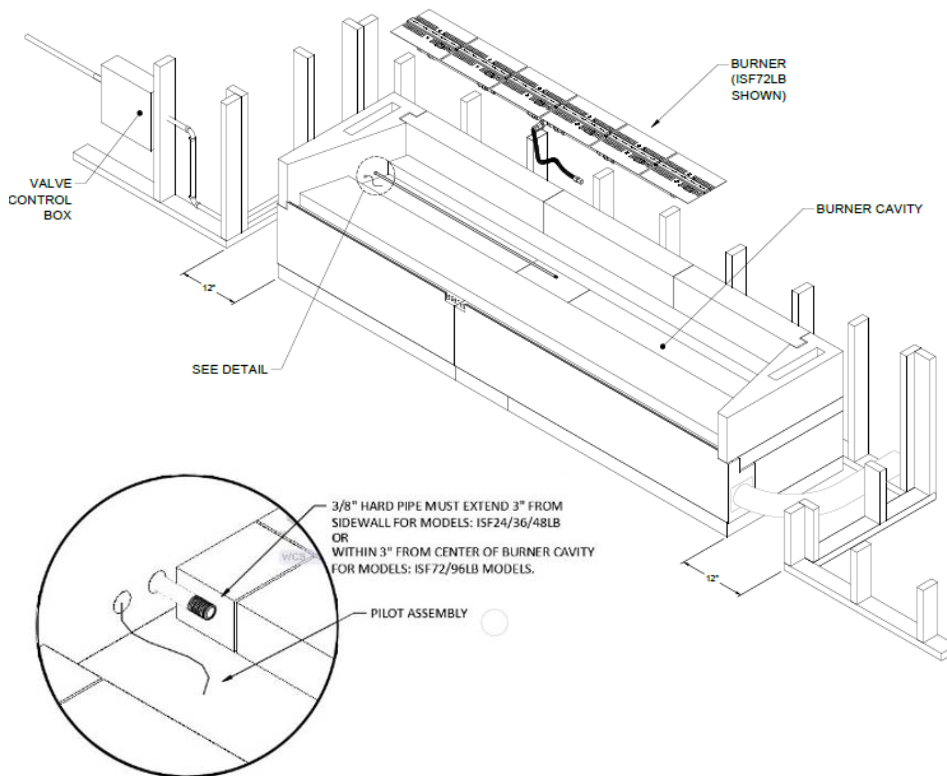

FIGURE 63
- 4) The 48” and 72” Maximus Linear fireplaces (82L48 & 82L72) will require the ISF36/60LB (respectively): Gas supply piping for these models shall terminate not less than 3” from sidewall. (Figure 63)
- 5) The 96” and 120” Maximus Linear fireplaces (82L96 & 82L120) will require the ISF72/96LB (respectively): Gas supply stub piping for these models shall terminate within 3” from center of the cavity. (Figure 63)